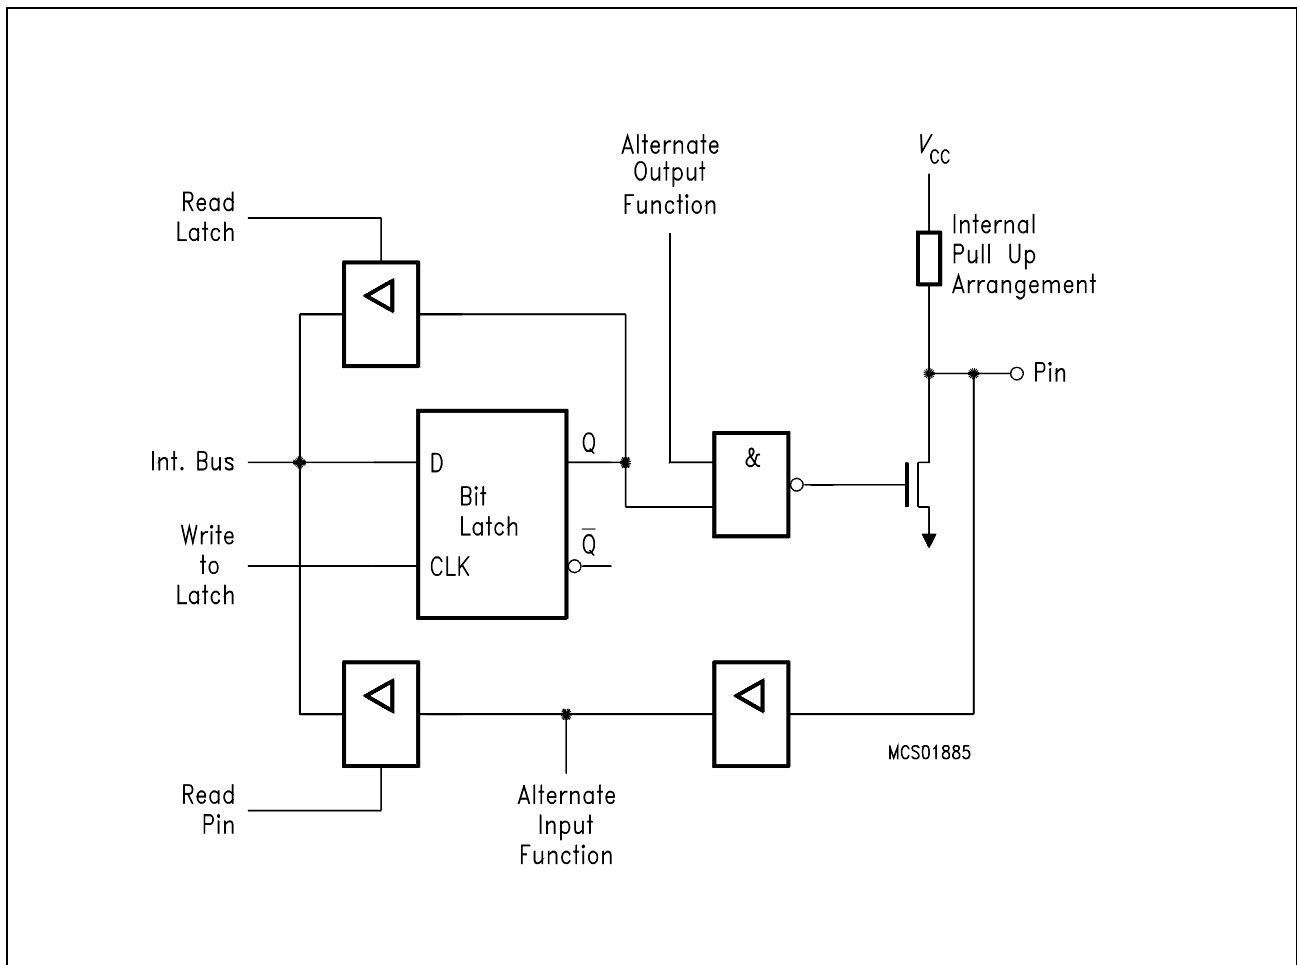

Figure 7-5
Figure 7-5 shows a functional diagram of a port latch with alternate function. To pass the alternate function to the output pin and vice versa, however, the gate between the latch and driver circuit must be open. Thus, to use the alternate input or output functions, the corresponding bit latch in the port SFR has to contain a one (1); otherwise the pull-down FET is on and the port pin is stuck at 0. (This does not apply to ports 1.0 to 1.3 when operated in compare output mode; refer to section 7.5.2 for details). After reset all port latches contain ones (1).